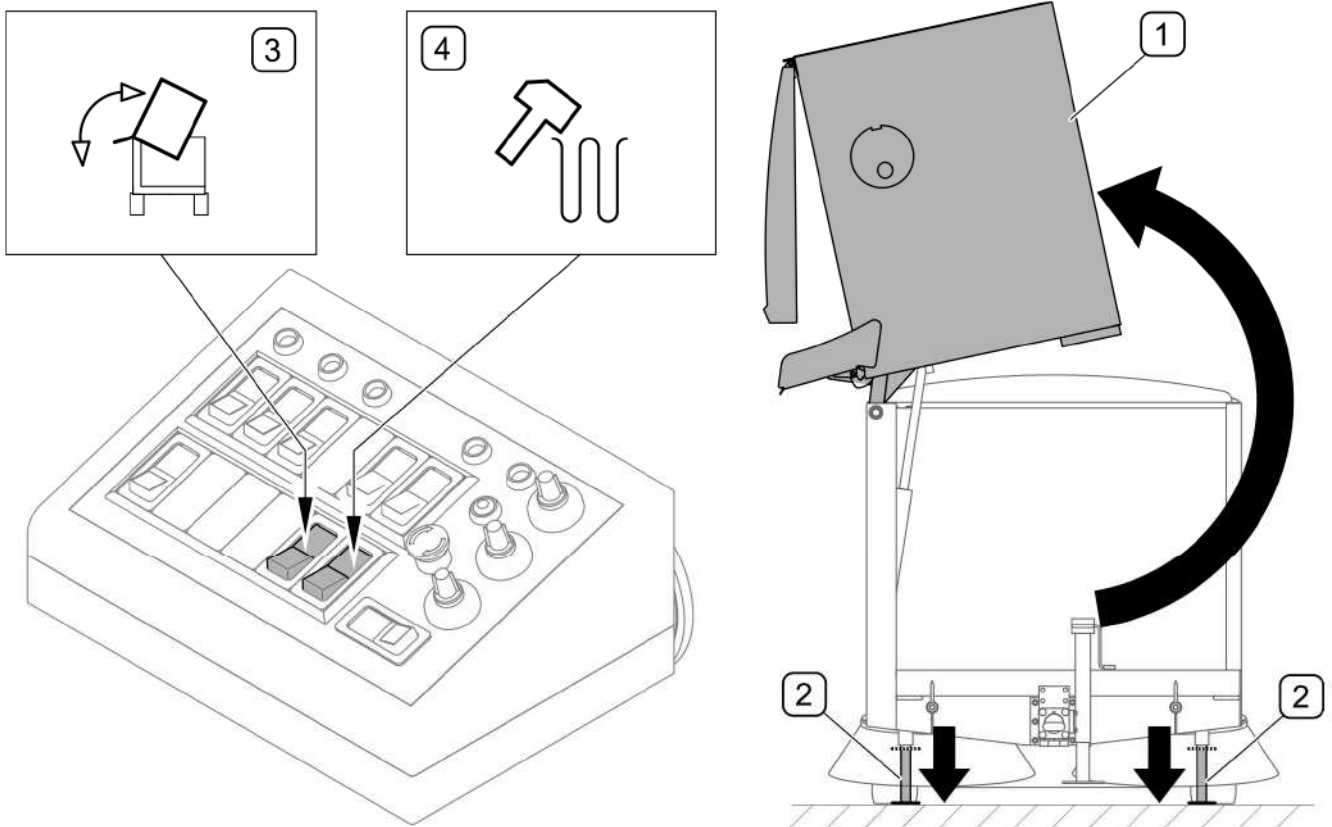

FIG. 4.14 Emptying the waste tank
Waste collected by the sweeper can be unloaded directly onto trailer's load box. The waste tank may be unloaded only when tractor is completely stationary. Raising and lowering of waste tank (1) is activated by means of switch (3) (FIG. 4.14) on the control panel.
While unloading the waste tank (FIG. 4.14), hydraulic supports (2) are lowered and warning audio signal is emitted. In order to facilitate discharging waste from the tank, the vibrator (option) can be activated by means of switch (4) on the control panel. After unloading waste, switch the vibrator off. After lowering the waste tank, make sure that hydraulic supports (2) are raised.